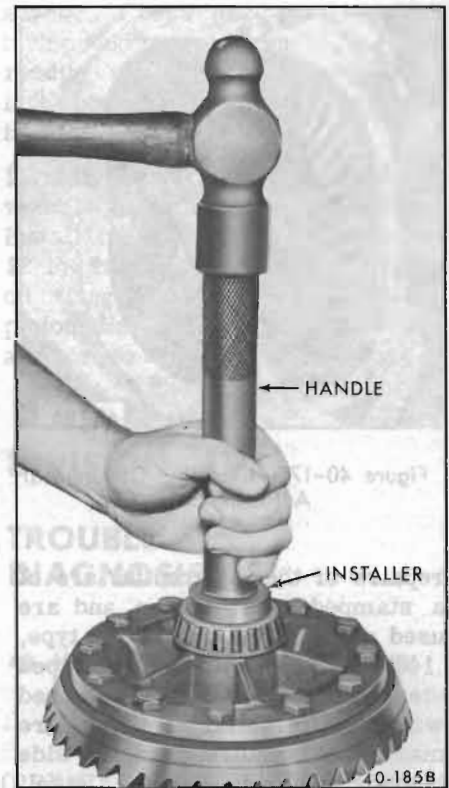

Figure 40-174—Installing Differential Side Bearings
8. If differential side bearings were removed, install new bearings using Installer J-22166 for right side or J-22539 for left side with Driver Handle J-8092. See Figure 40-174.